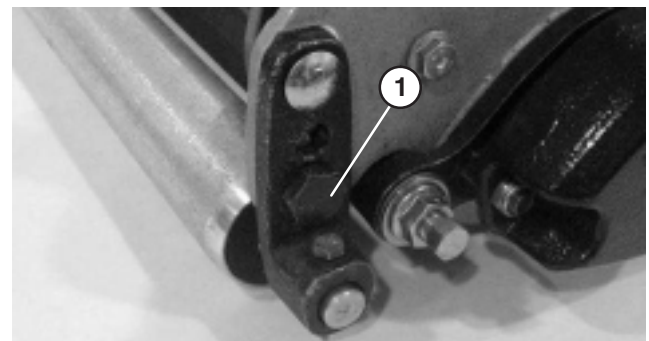

Figure 15
5. While holding reel securely on plate and maintaining pressure on rear roller, rotate lower right roller mounting bolt (Fig. 15). This mounting bolt has an offset, which when rotated, acts as an eccentric (cam) to raise or lower the roller. There is an I.D. dot which denotes the offset of the bolt. Dot indicates in which direction right end of roller moves when bolt is turned and should always be in the rear half of the arc as shown in figure 15.